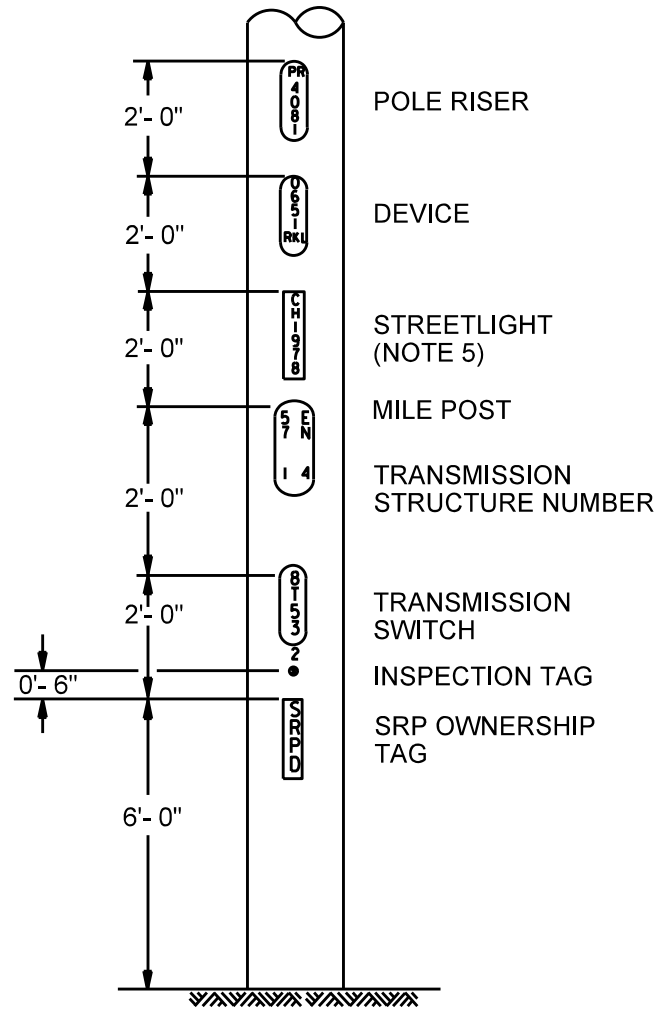

FIGURE 1
- Placement of pole markings shall be in accordance with Figure 1. If thru-bolts or other SRP hardware impede the specified location of the pole markings, placement of pole markings may be adjusted. Every effort must be made to locate the markings as close as possible to the indicated positions.